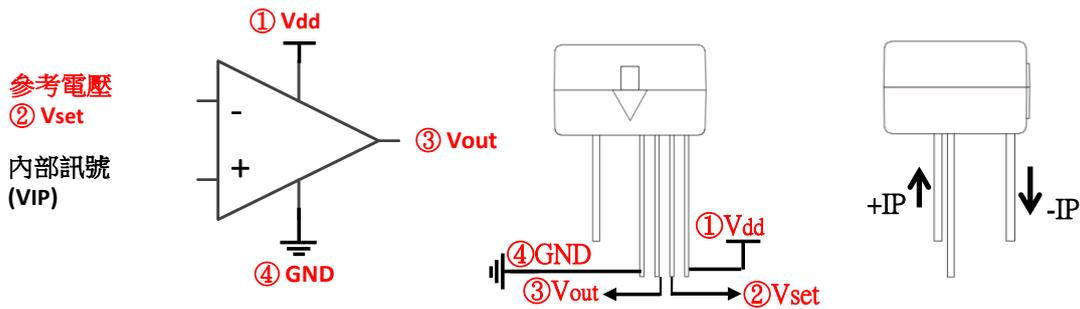

Fig. 2
3. **Set the Overcurrent Value** : V_{set} pin and V_{out} pin are open-circuited, which is shown in Fig.2. The V_{set} pin input the above-mentioned measured voltage value. The V_{IP} is an internal Hall sensing signal, which converts into a proportional voltage according to the IP current.
2.1 Set the Reference Voltage V_{set} : V_{set} pin and V_{out} pin are open-circuited, which is as shown in Fig.2. The V_{set} pin input voltage range is $0 \sim V_{dd}$.